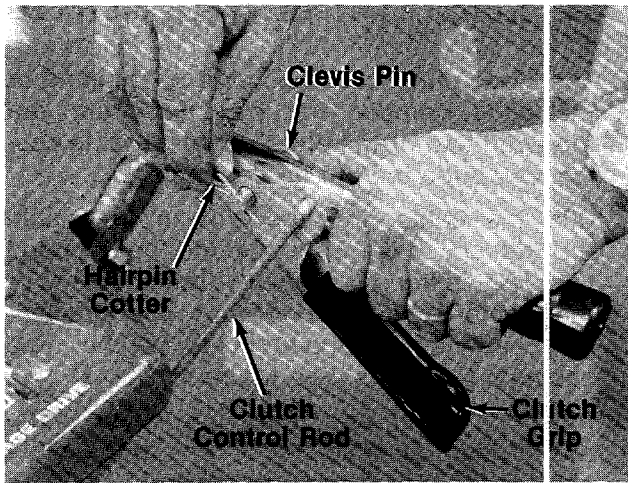
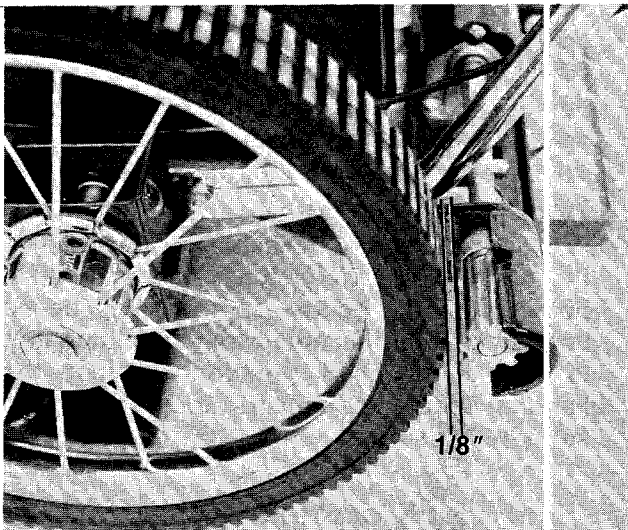

FIGURE 7.
FIGURE 8.
1. Remove hairpin cotter and clevis pin which secure clutch grip to the right hand handle. See figure 7. Remove clutch grip.
3. Hook other end of clutch control rod into clutch grip. Secure clutch grip to handle with clevis pin and hairpin cotter. See figure 7.
With the drive clutch grip released as shown in figure 7, there should be a minimum clearance of 1/8" between the drive pinions and wheels. See figure 8. With the clutch engaged (clutch grip squeezed), the pinions should engage solidly into the tread of the wheels.
Clearance between drive pinion and drive wheel should be approximately 1/8" when drive clutch grip is released. Refer to figure 8. Excess clearance will cause premature belt wear. Adjust cable as necessary.